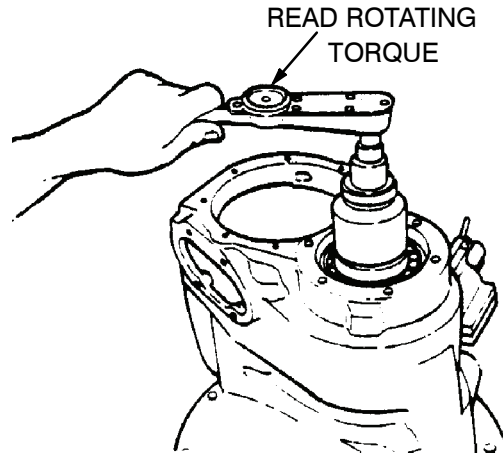

Figure 58.
- (1) Make a check for proper pinion bearing pre-load by installing an appropriate wrench socket over pinion nut and attaching an inch–pound (in. lb) torque wrench to socket. Refer to Figure 58.